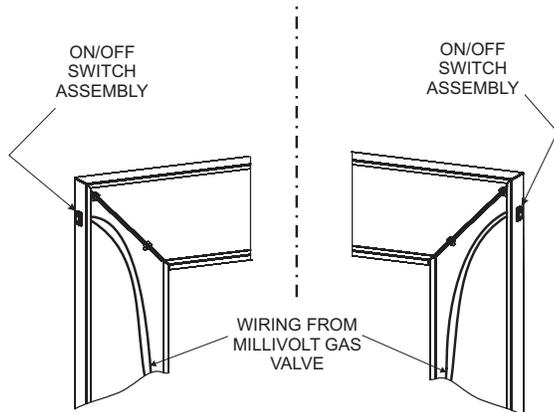

Figure 17
3. Run the low voltage alternate switch wires up the back of the right or left surround panel. Then secure the wires with wire clips provided. See Figure 17.